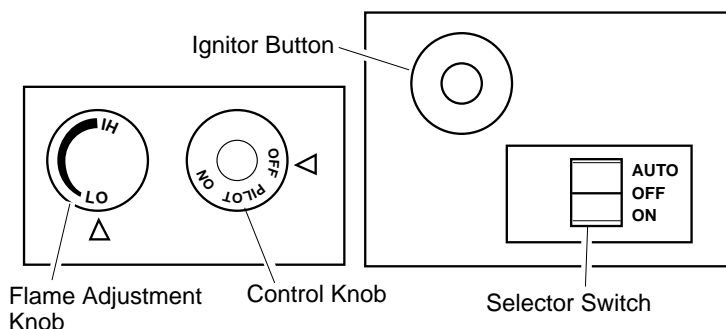

Figure 25 - Control Knob and Ignitor Button Location (Shown as Supplied, No Control Options)
5. Wait five (5) minutes to clear out any gas. Then smell for gas, including near the floor. If you smell gas, **STOP!** Follow "B" in the safety information. If you don't smell gas, go to the next step.
6. Press in and turn control knob counterclockwise to the PILOT position. Press in control knob for five (5) seconds (see Figure 25).